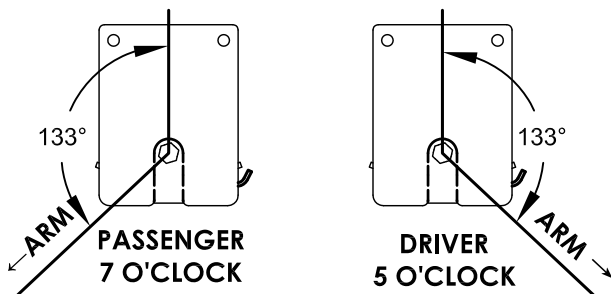

figure 10
STEP 2: Installing the Arm Connector. After mounting the spring housing, install the arm connectors onto the end of the hex shaft, ensuring it is correctly oriented and clocked for pre-load. The arm connector must be installed in the 5 o'clock position on the driver (LH) side, and the 7 o'clock position on the passenger (RH) side. Overall spring rotation must not exceed 240-degrees. See figure 10.